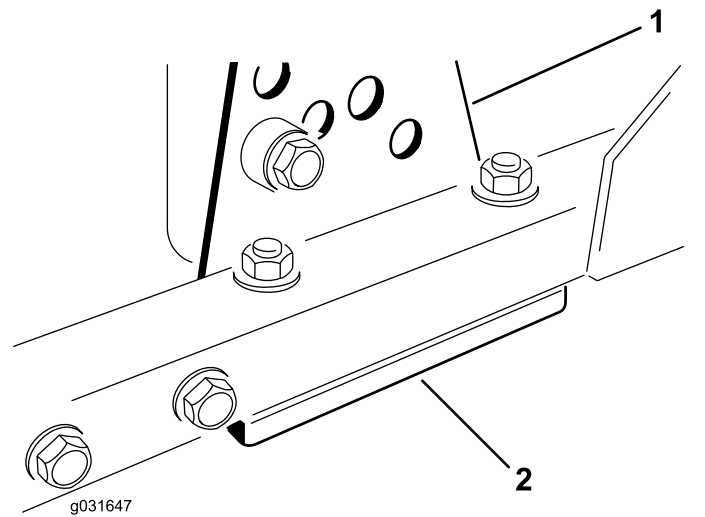

Figure 71
1. Remove the height-of-cut bracket (front, left, or right) from the cutting unit frame (Figure 71).
2. Adjust the 1.5 mm (0.06 inch) shims and/or 0.7 mm (0.03 inch) shim between the cutting unit frame and bracket to achieve the desired height of cut (Figure 71).
3. Install the height-of-cut bracket to the cutting unit frame with the remaining shims assembled below the height-of-cut bracket (Figure 71).